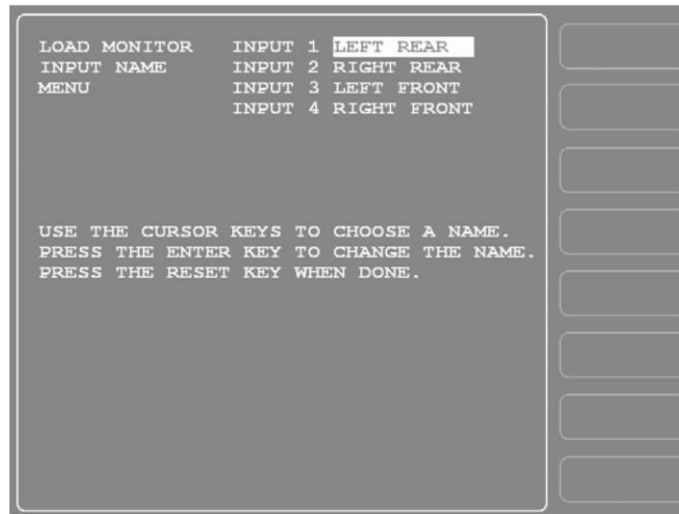

Figure 3-6. Load Monitor Input Name Menu with “INPUT 1” Highlighted
1. Select "SET INPUT NAMES" to display the Load Monitor Input Name Menu (see Figure 3-6, page 65). Default input names are as follows: